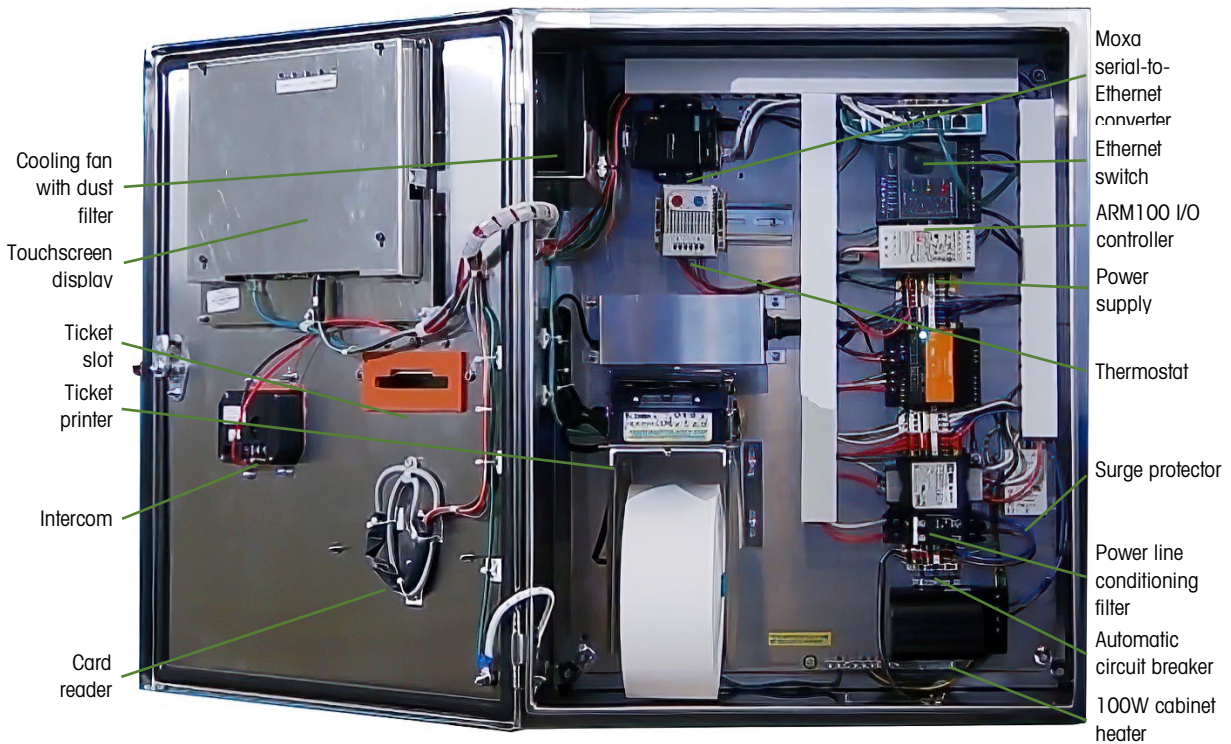

Figure 1-3: IND9UT-DB Internal Layout with Touchscreen
Figure 1-3 shows a representative example of the layout of the main components inside an IND9UT-DB enclosure, with a touchscreen DataBridge interface. Layout will vary depending on system configuration.
- Figure 1-3 shows an IND9UT-DB with optional features such as a cooling fan. Other configurations are possible, including components such as a fiber optic ethernet converter.